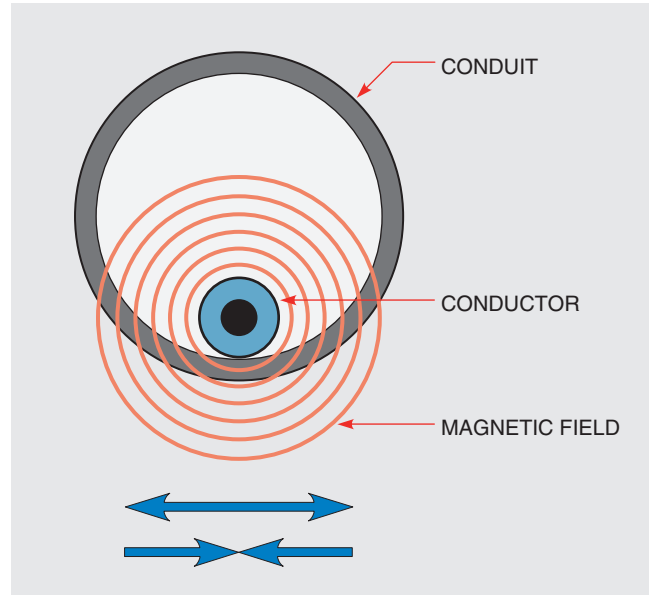
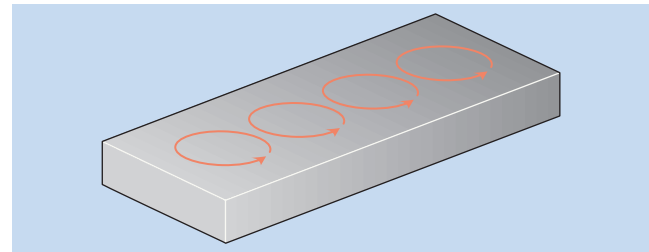

FIGURE 9-20 The magnetic field expands and contracts.
FIGURE 9-21 Eddy currents are currents induced in metals.
It might also be necessary to connect wires in parallel when conductors of a large size must be run in a conduit. Conductors of a single phase are not permitted to be run in metallic conduits, as shown in **Figure 9-19** (NEC Sections 300.5(I) and 300.20(A) to (B)), because when current flows through a conductor, a magnetic field is produced around the conductor. In an alternating current circuit, the current continuously changes direction and magnitude, which causes the magnetic field to cut through the wall of the metal conduit (**Fig. 9-20**). This cutting action of the magnetic field induces a current, called an eddy current, into the metal of the conduit. Eddy currents are currents that are induced into metals. They tend to move in a circular fashion similar to the eddies of a river, hence the name eddy currents (**Fig. 9-21**). Eddy currents can produce enough heat in high-current circuits to melt the insulation surrounding the conductors. All metal conduits can have eddy current